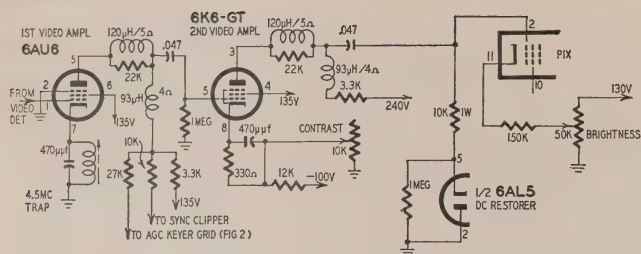

Fig. 3—Modifications to brightness, contrast and d.c. restorer circuits.
3. Move the picture (contrast) control to the cathode circuit of the 6K6-GT video output stage (Fig. 3).
5. Move the brightness control from the grid to cathode of the picture tube and change the polarity of the bias supply voltage as in Fig. 3.